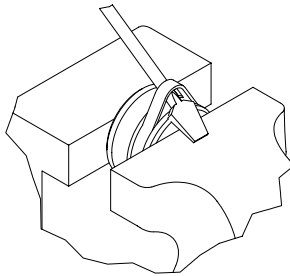

Figure 4-9, Piston Seal
7. Carefully pry up on the piston seals using a blunt tip screw driver being careful not to scratch the seal grooves. Cut the seals to remove from the piston. (Figure 4-9)